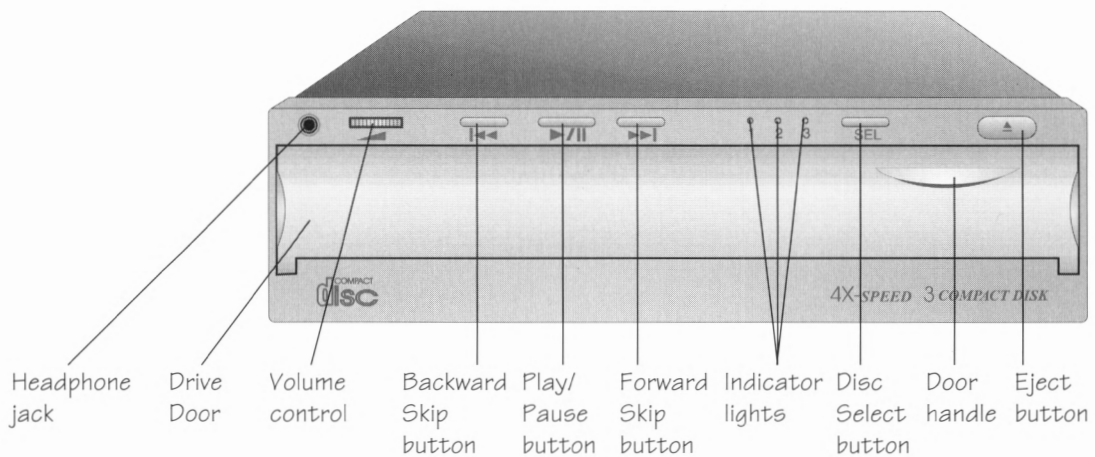

Fig. 16: Front of the CD-ROM drive
Although your system designates each of the trays in your CD-ROM drive unit as a letter, the front of the unit represents each tray as a number. The bottom tray is 1, the middle tray is 2, and the top tray is 3. Each tray also has a corresponding indicator light. (See Figure 16.) If a tray is loaded with a CD-ROM data disc, its indicator light is green; if the disc in the tray is an audio CD, the light is orange.
2. Press the Select button (SEL) until the indicator light for the drive tray containing your audio CD is lit. (See Figure 16.) The bottom tray is 1, the middle is 2 and the top is 3.